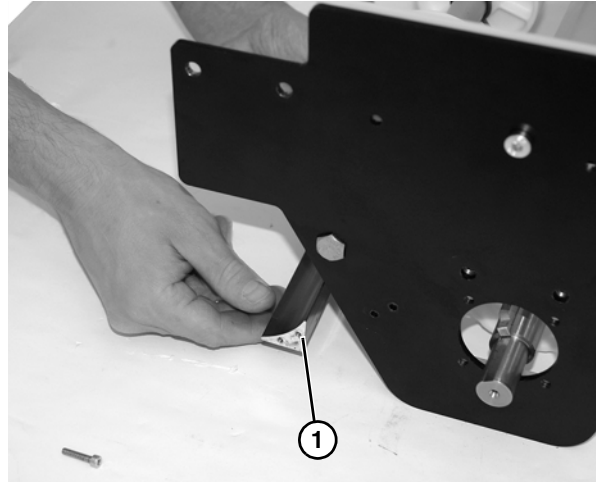

**Figure 45**
8. Remove two socket head screws (**Figure 45, item 1**) on both sides of the conveyor.